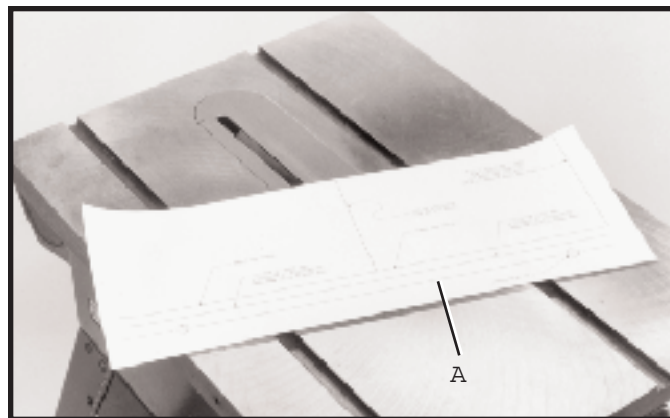

Fig. 17
4. Locate paper template (A) Fig. 17, included with the instructional literature and identified as part no. 422-27-655-0009.